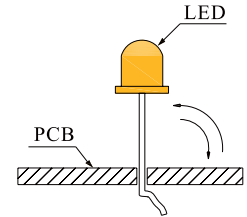

Fig. 8
- Do not bend the leads more than twice. (Fig. 8)